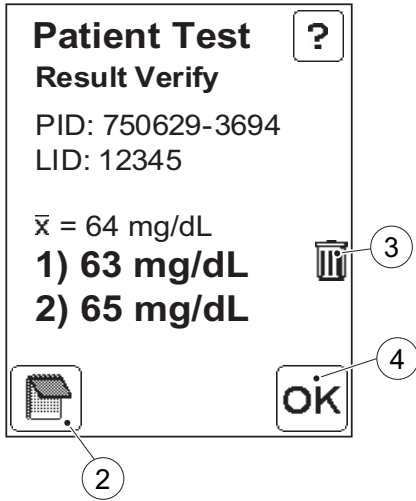

FIGURE 4-27
- f) FIGURE 4-27 will be displayed.